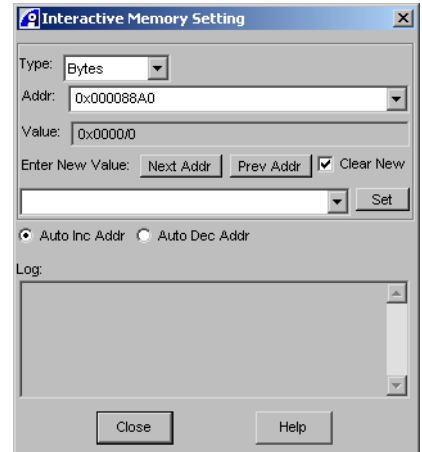

Figure 7-2 Interactive Memory Setting dialog box
11. Right-click and select **Set Memory Interactive...** from the context menu to display the Interactive Memory Setting dialog box, shown in Figure 7-2.